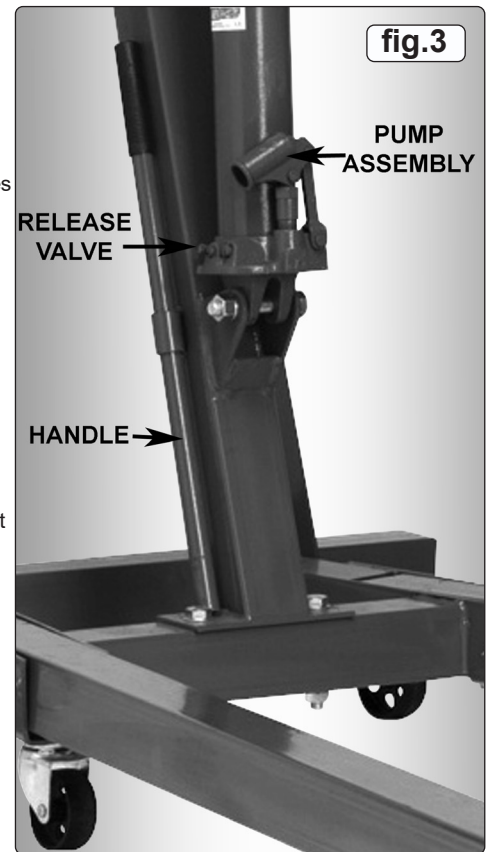

fig.3
- 3.1.4. For control system, see fig.3 for release valve, pump assembly and handle. Operation is explained in Section 5.